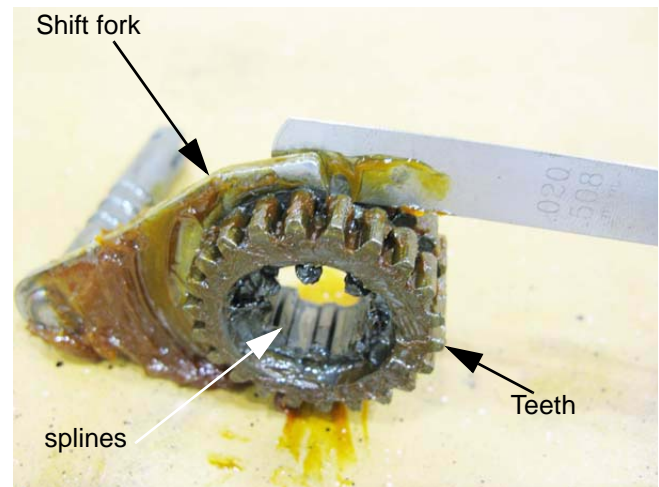

Figure 5.69
- 13f. Check the shift collar and fork for wear. See Figure 5.69.